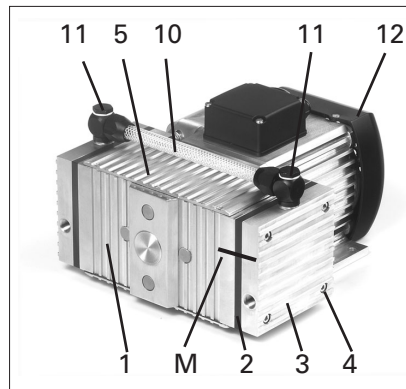

Fig. 3
- 3 Undo the screws that hold the fan cover (see fig. 3, position 12) and remove the fan cover from the motor.
- 1 Make a mark (M) on the top plate 1, head plate 2, intermediate plate 3, and housing 4 with a felt-tip pen. This is to ensure that the parts will be reassembled correctly at a later stage.